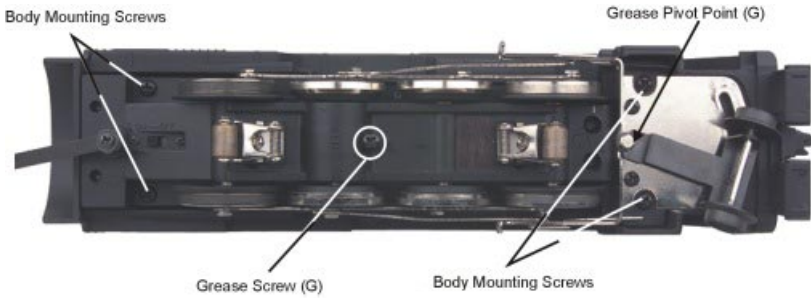
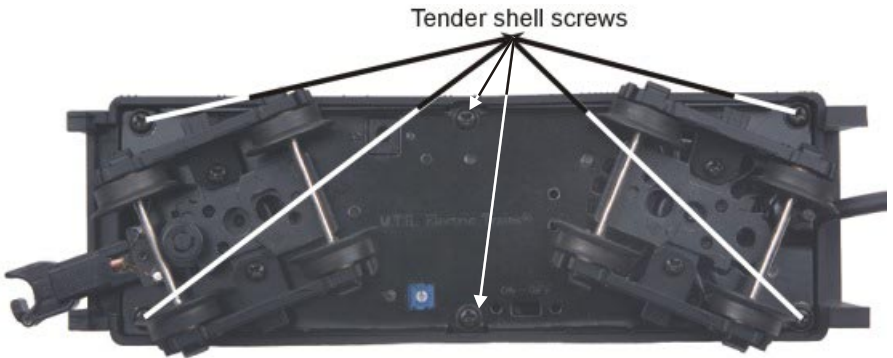

Figure 6: Traction Tire Replacement Instructions
Figure 8
2. Remove the boiler by removing the body mounting screws shown in Fig. 6
3. Remove the Phillips screw (marked “GREASE”) (Fig. 6).
- You should also grease the leading locomotive truck tongue to enhance its ability to slide on the chassis. Follow the grease points shown on Fig. 6.
1. To replace the headlight in this model you will need to follow the disassembly instructions for greasing the engine in figure 6 on pg. 13. Once the boiler has been removed you can access the headlight (see figure 8).
If you experience poor or no smoke output when the smoke unit is on and has fluid, check the wick to see if it has become hard, blackened, and unabsorbent around the heating element. To remove the smoke unit you will first have to remove the boiler shell (by removing the body mounting screws shown in Fig. 6 on pg. 13).